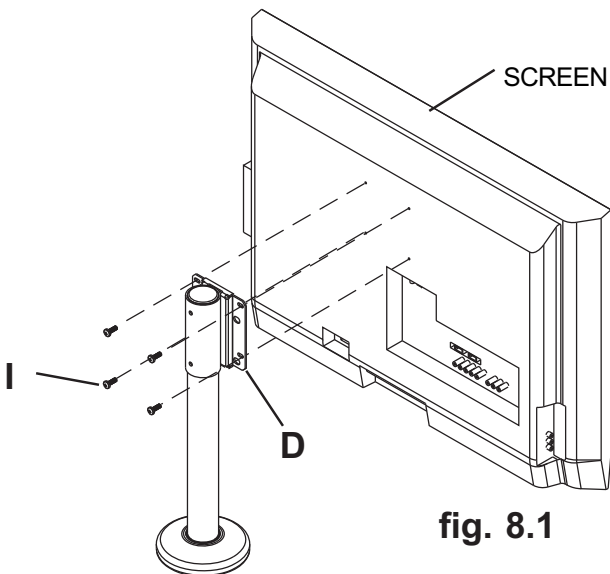

fig. 8.1
8 **For installing screens with a VESA 100 hole pattern:** Using the 4mm allen wrench (J), attach universal adapter plate (E) to adapter plate (D) using four M4 x 12 mm serrated socket pin screws (I) as shown in figure 8.1.